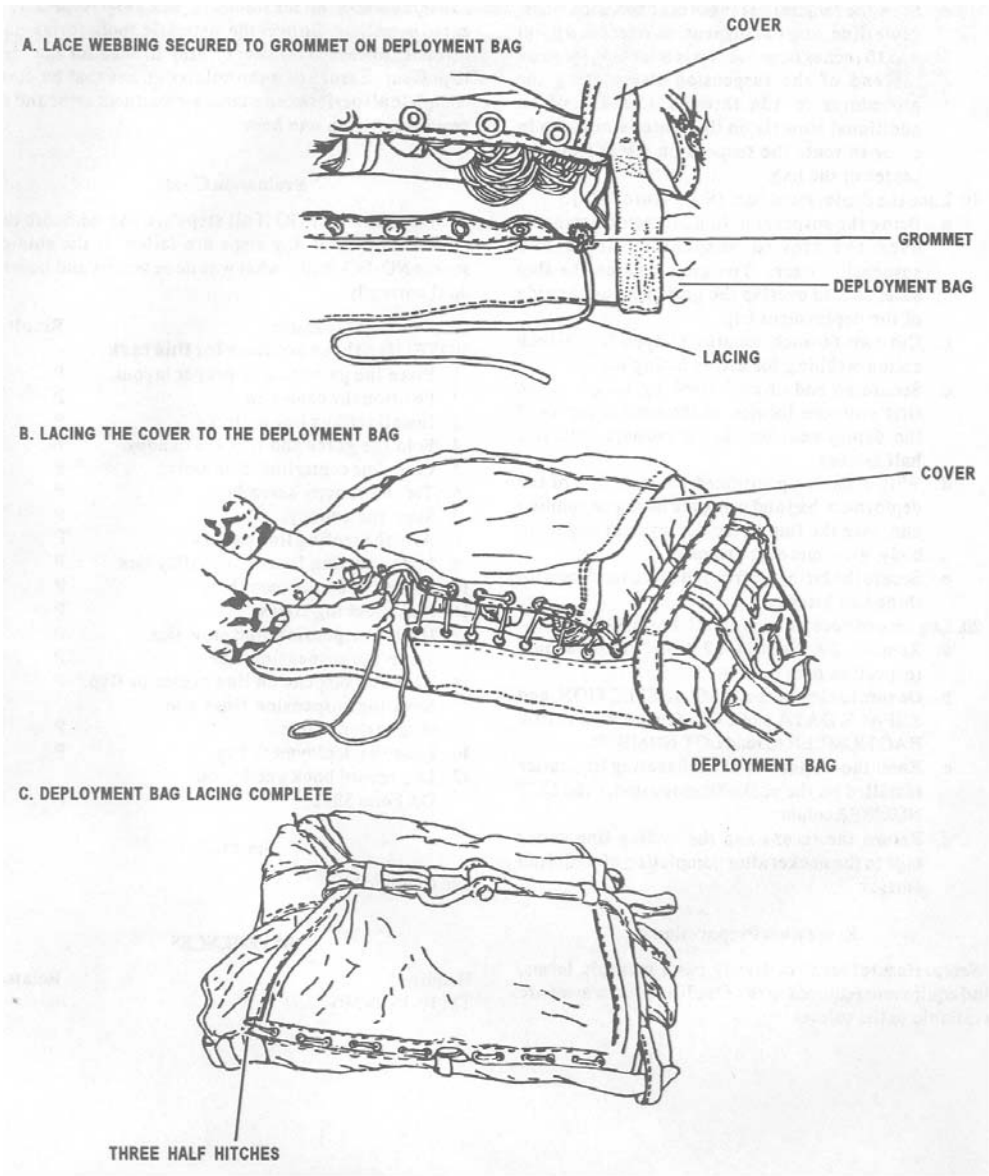

Figure 3-28 Lacing the deployment bag
19. Lace the deployment bag. (See Figure 3-28)